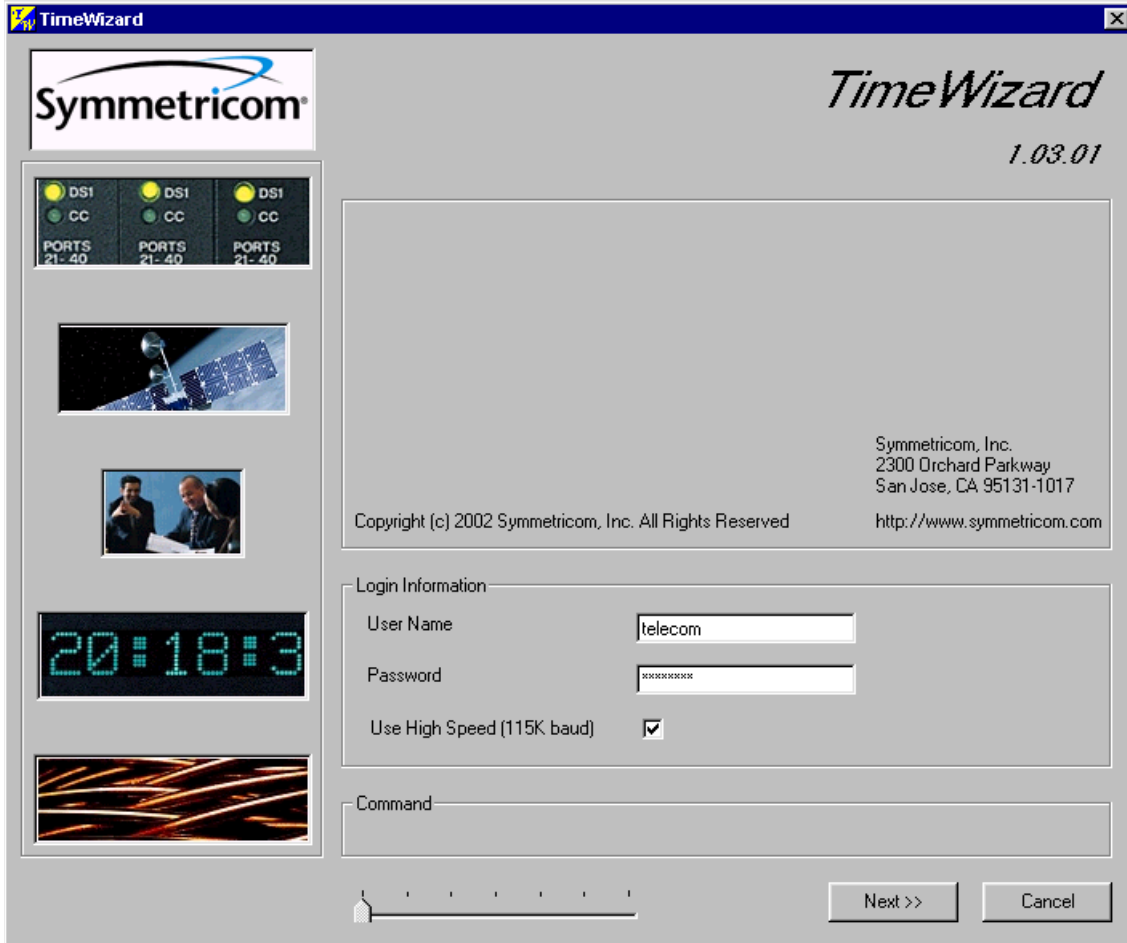

Figure 3-22. The TimeWizard Main Screen
3. From the Windows desktop, select **Start, Programs, TimeWizard** to start the TimeWizard application. When TimeWizard starts, the "TimeWizard" main screen appears, as shown in .Figure 3-22.